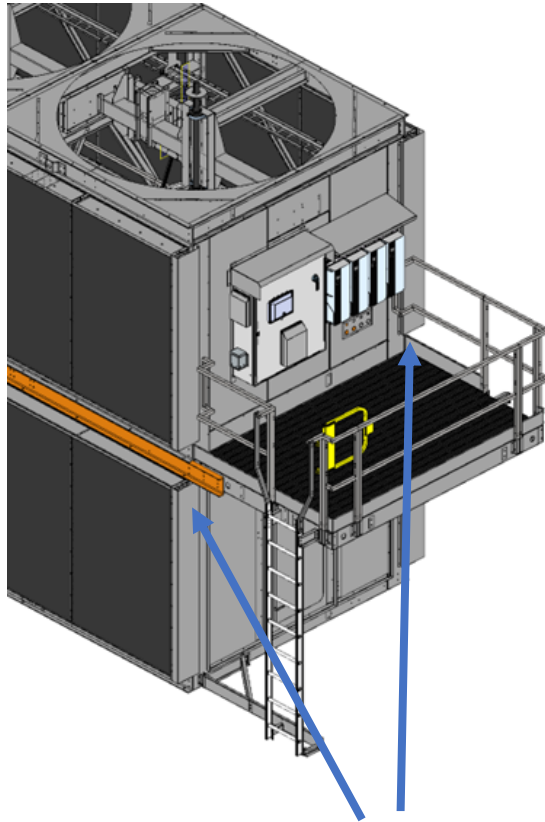

Figure 18. External Platform Extended C-Channels
3. Lift external platform to the extended c-channels on the lower section shown **Figure 18**. Lift external platform from the four lifting locations shown in **Figure 19**. Do not lift external platform with toeboards (shown in orange in **Figure 23**) installed.